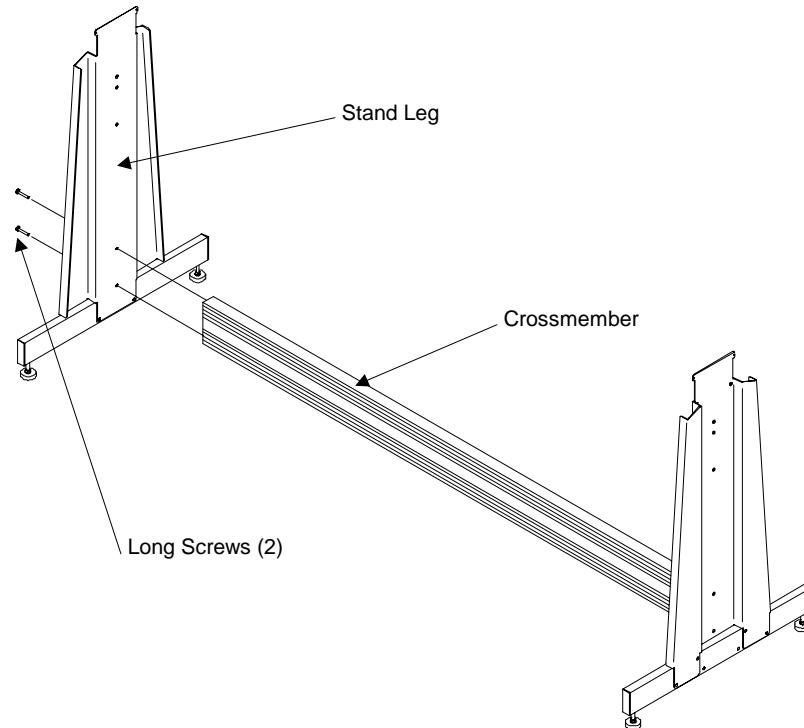

Figure 4. Attaching the Bottom Crossmember to the other Stand Leg
- Repeat procedure #3 to attach the other end of the crossmember to the other stand leg. Refer to Figure 4.